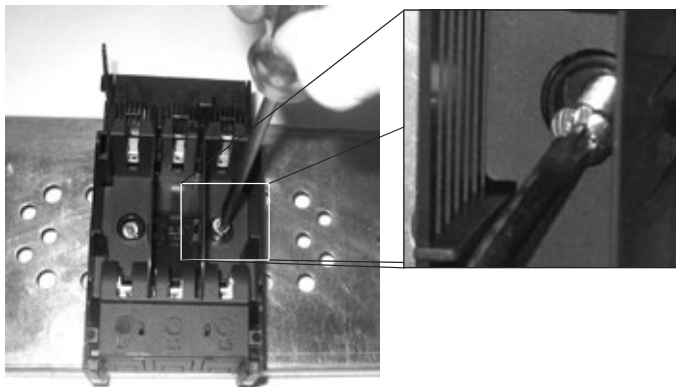

Figure 8
- Fix the disconnecter to a mounting plate with M6 screws (Figure 8) until you have a good fixation on the panel;